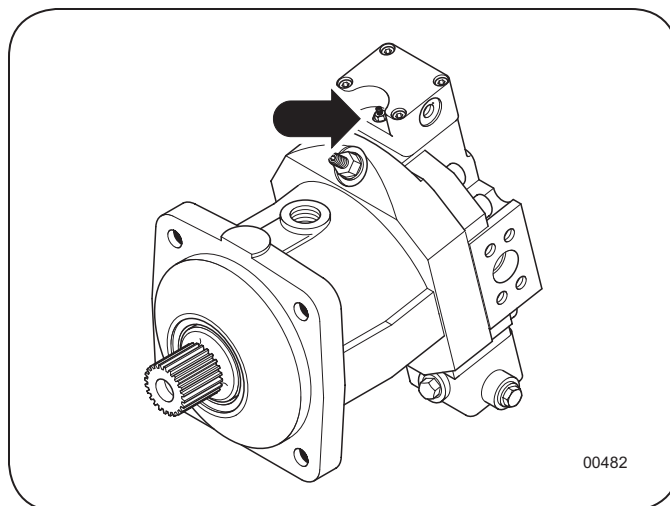

Figure 20: Wheel Drive Motor Begin Of Stoke Adjustment
13. Locate the begin stroke adjustment setscrew on the motor. See Figure 20. Use the 10mm wrench and 3mm allen wrench to loosen the jamnut and back the setscrew out COUNTER-CLOCKWISE a few turns. This will allow easier setting of the motor.